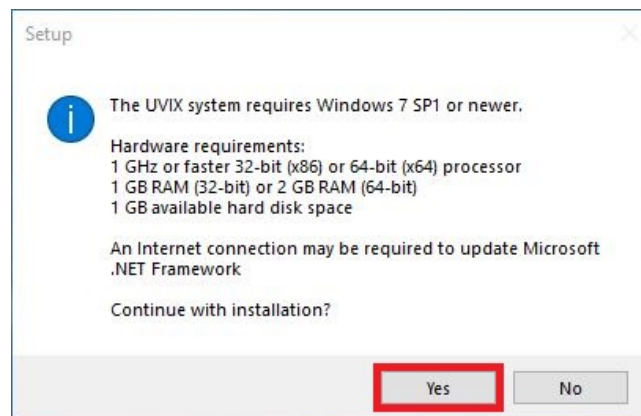

Figure 4.1: UVIX requirements
1. Ensure that the system requirements are met and click "Yes", as shown in figure 4.1.